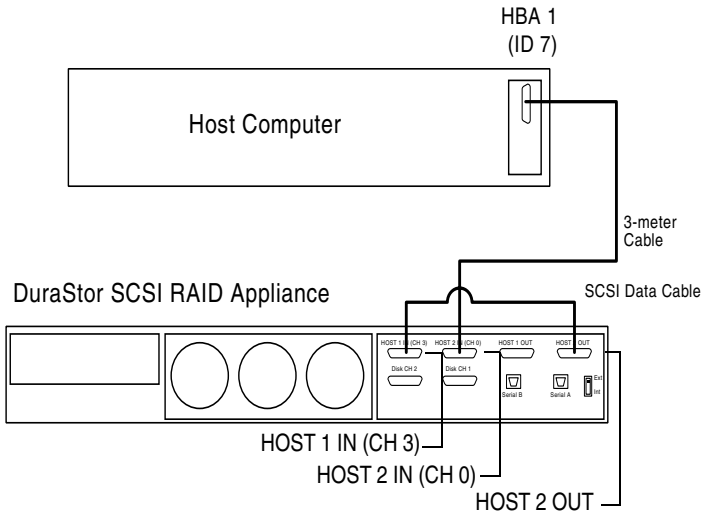

Figure 3-18 Active-active Single-port Cabling Diagram
- 1 Connect the SCSI data cables as shown in Figure 3-18.